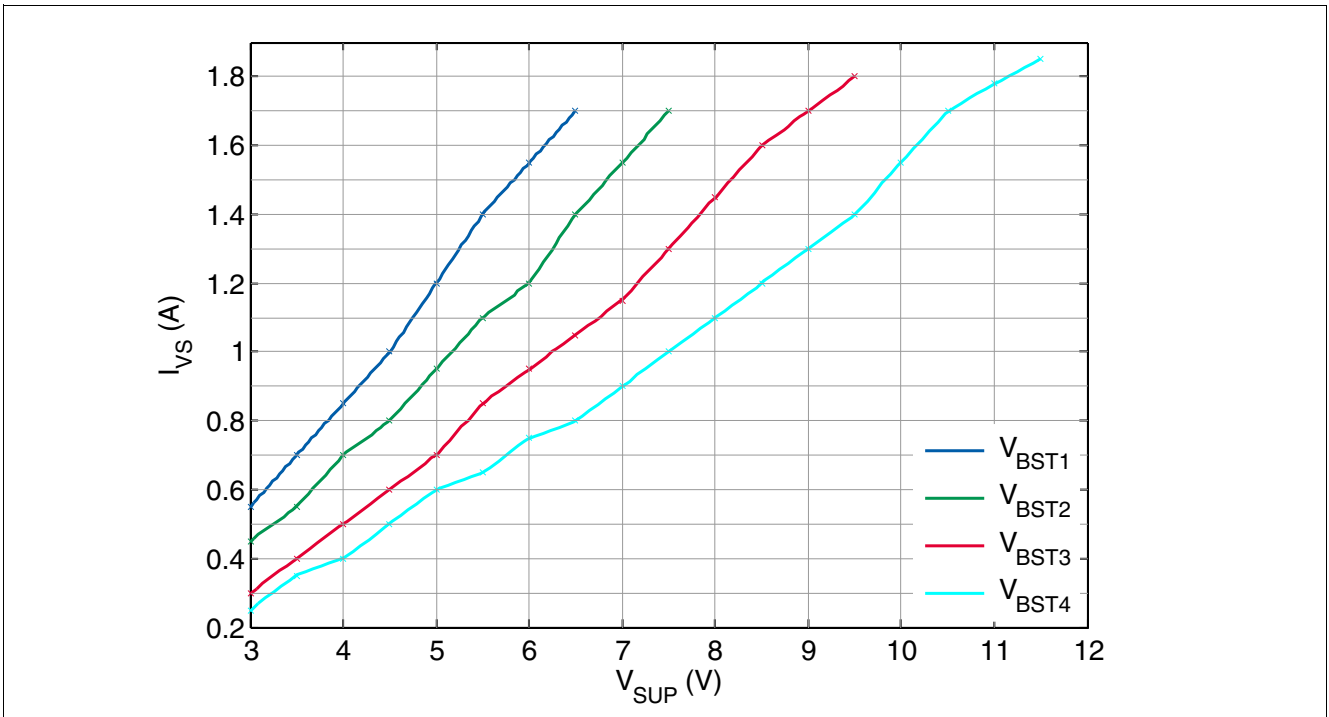

Figure 14 Maximum DCDC Boost current capability versus  $V_{SUP}$
2) Values verified in characterization with Boost converter external components specified in Chapter 14.1. No subject to production test; specified by design. Refer to Figure 14 for additional information.
Note: **Figure 14** is based on simulation results (specified by design), with Boost converter external components specified in **Chapter 14.1**.